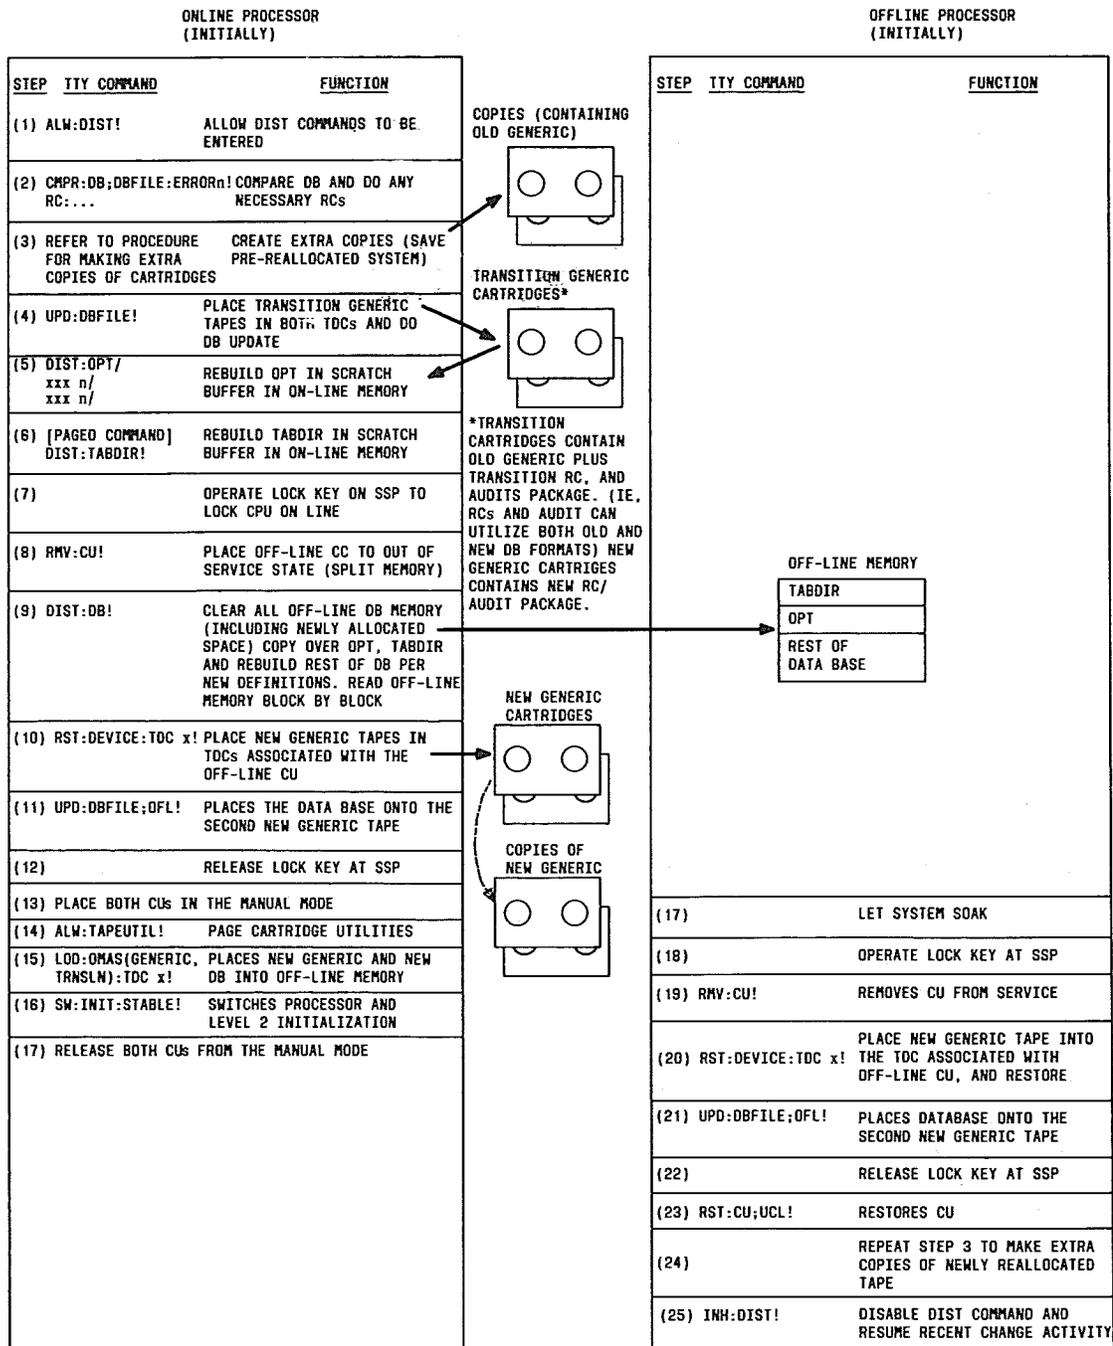

Fig. 7—Complex Reallocation
4.02	This reallocation procedure (see Fig. 7) is divided into seven parts:
4.03	The complete procedure for complex reallocation is given in the steps that follow. For a concise procedure, refer to Fig. 7.